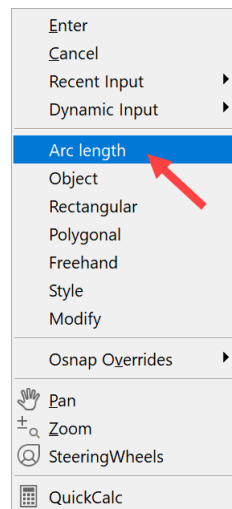

Figure 16.10: The REVCLLOUD shortcut menu with Arc length selected
14. You are now in the **REVCLOUD** command. AutoCAD will normally pre-calculate the arc length in the **REVCLOUD** command, but you can adjust it if you want to. Right-click to bring up the shortcut menu, as shown in *Figure 16.10*.